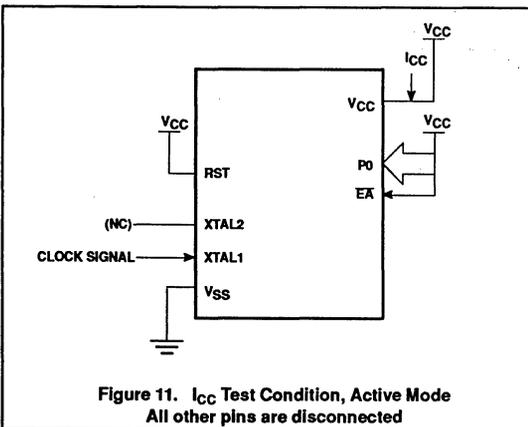

Figure 11. I_{CC} Test Condition, Active Mode
- See Figures 11 through 14 for I_{CC} test conditions.